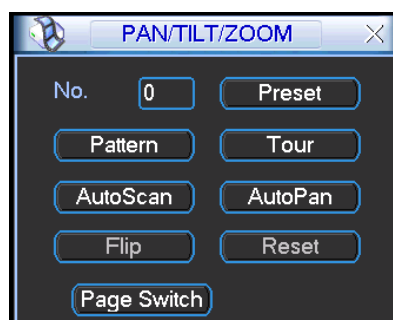

Figure 4-47
In \_ Figure 4-43, click page switch button, the interface is shown as in Figure 4-47.
- The following setups are usually operated in the ...Figure 4-43, Figure 4-46 and Figure 4-47.
In Figure 4-47, please input preset number in the No. blank, and click preset button.
In Figure 4-47, click “Auto Scan” button, the system begins auto scan. Correspondingly, the auto scan button becomes Stop button. Click stop button to terminate scan operation.
In Figure 4-47, click page switch button, you can see an interface is shown as below. See Figure 4-52. Here you can set auxiliary function. The aux value has relation ship with the Aux button of the decoder.